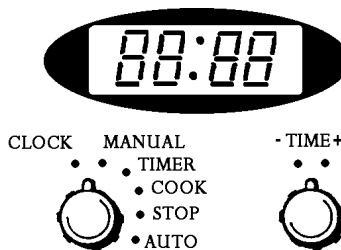

Fig.5
**TO SET THE TIME OF DAY** (see Fig.5)